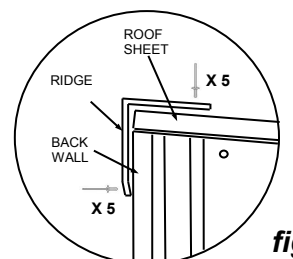

fig. 4
- Position the Roof Sheets with the back lining up with the outside edge of the back wall cladding as in (**fig.4**).
- Rivet Ridge to roof and back wall, riveting at the ends and at each join of the roof sheets (**fig. 4**).